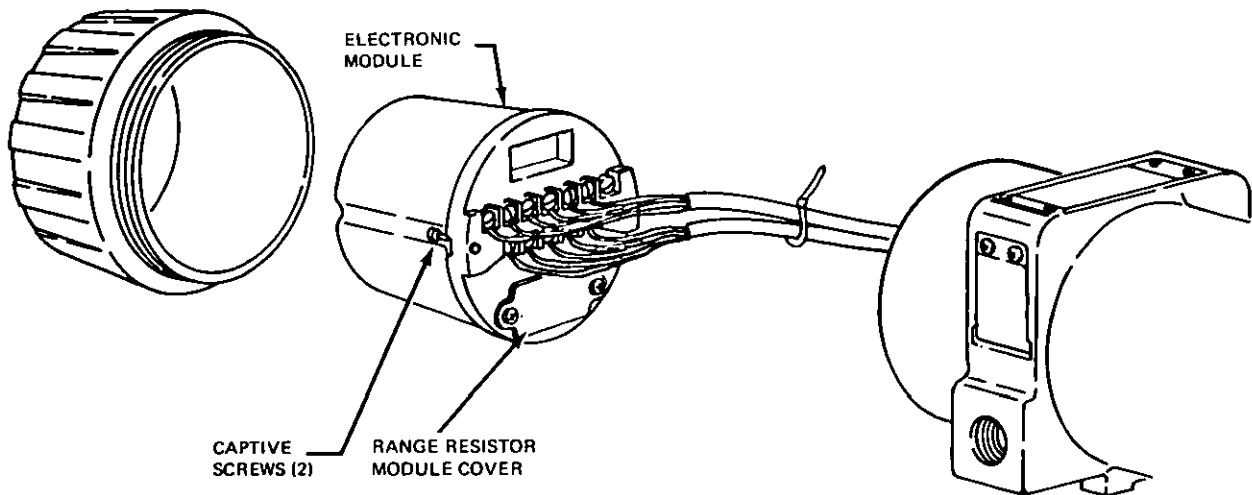

Figure 26. Electronic Module Replacement
2. Remove the cover from the electronic module compartment. Loosen the two captive mounting screws and lift out the electronic module from the transmitter housing (see Figure 26).